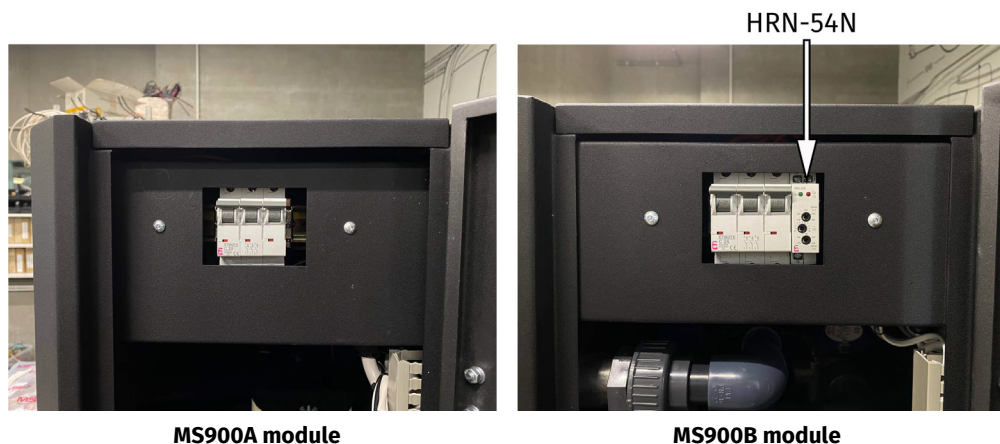

Figure 26. Switching of circuit breakers
1. Open the doors on the MS900A and MS900B modules and switch on the circuit breaker (see Fig. 26). After switching on, the green indicator on the HRN-54N relay of the MS900B module should light up. If it is red, it indicates incorrect phase alignment in the socket, and **the module will not operate**.